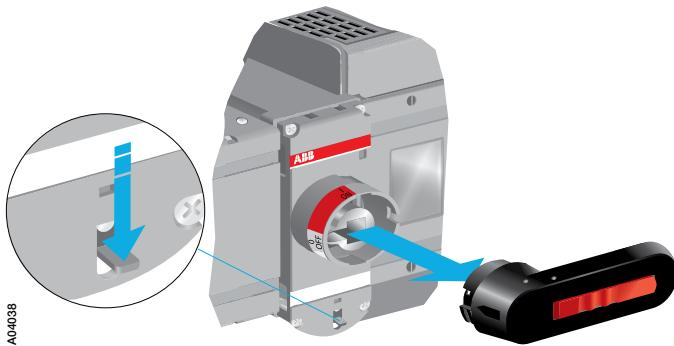

Figure 6.1 *Releasing the handle*
1. Release the handle from the switch panel by pressing down the locking latch under the switch panel and pulling the handle off, see Figure 6.1.